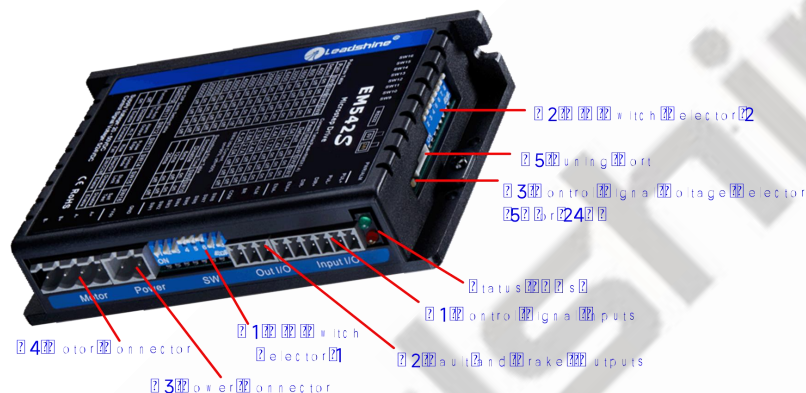

Figure 2 Connectors, DIP switches, and LED locations
PUL+ (CW+)	Pulse and Direction Connection: (1) Optically isolated, high level 4.5-5V or 24V, low voltage 0-0.5V (2) Maximum 200 KHz input frequency, 500KHz customized model is available (3) The width of PUL signal is at least 2.5μs, duty cycle is recommended 50% (4) Single pulse (step & direction) or double pulse (CW/CCW) is set by DIP Switch SW14 (5) DIR signal requires advance PUL signal minimum 5 μs in single pulse mode (6) The activated edge of PUL and DIR is set by DIP Switch SW13 (7) The factory setting of control signal voltage is 24V, must need to set S3 (figure 2) if it is 5V
ENA-	Enable Connection: Optional. (1) Optically isolated, differential. (2) Disable the drive by 4.5-5.0V or 24V input connection; enable the drive by 0-0.5V connection(default no connection) (3) ENA signal requires advance DIR signal minimum 5μs in single pulse mode (4) The default control signal voltage is 24V, to set S3 (figure 2) if it is 5V (5) Enable time to be at least 200ms
The DM542 can accept differential or single-ended control signals (pulse, direction, and enable) in open-collector or PNP connection through the P1 connector (figure 2). It is recommend to add an EMI line filter between the power supply and the drive to increase noise immunity for the drive in interference environments.
The first 8-bit is located on the side (DIP switch selector 1 in Figure 2) and used to configure settings of micro step resolution, output current, and motor standstill current as shown below, the factory setting of SW1-SW8 is **ON, ON, ON, OFF, OFF, OFF, ON, ON**.
The second 8-bit DIP switch is located on the top (DIP switch selector 2 in figure 2), and used to configure settings of control command filtering time, motor auto-configuration, fault output impedance, pulse active edge, control mode, lock shaft, and self-test as shown below, the factory setting of SW1-SW8 is **OFF, OFF, OFF, OFF, OFF, OFF, OFF, OFF**.
The Third 1-bit selector is located on the top (DIP switch selector 3 in figure 2), used to configure the voltage of control signals. For the safety of optically coupled, the factory setting is 24V, which no need to connect 2K resistors like the old drives, making it easier to use. When the voltage of the control signal is 5V, the S3 must be set to 5V , otherwise, the motor won't work.